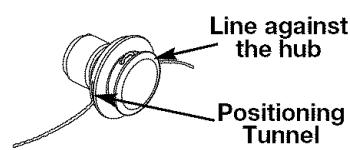

Fig. 17
- While firmly holding the upper shaft boom (Fig. 17), pull the attachment out of the coupler.
5. Pull the line and make sure the line is against the hub and is fully extended through the positioning tunnels (Fig. 17).